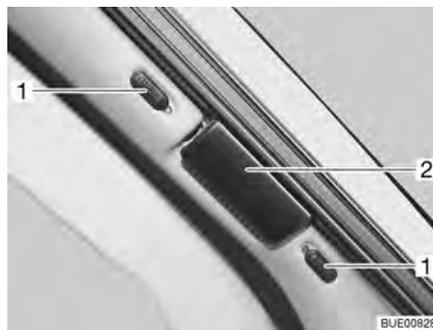

Fig. 22 Roman shade for the windscreen
- Use the handle (Fig. 22,2) to pull the two halves of the Roman shade for the windscreen outwards as far as they will go.
- Push the locking knobs (Fig. 22,1) upward or downward. If the red dot is visible, the lock is open.